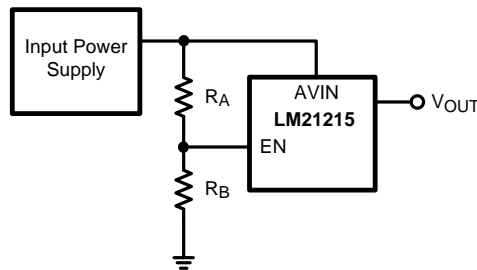

Figure 29. Enable Startup Through Vin
The LM21215 has a built-in under-voltage lockout protection circuit that keeps the device from switching until the input voltage reaches 2.7V (typical). The UVLO threshold has 200 mV of hysteresis that keeps the device from responding to power-on glitches during start up. If desired the turn-on point of the supply can be changed by using the precision enable pin and a resistor divider network connected to VIN as shown in Figure 29 in the design guide.
The enable (EN) pin of the LM21215 allows the output to be toggled on and off. This pin is a precision analog input. When the voltage exceeds 1.35V, the controller will try to regulate the output voltage as long as the input voltage has exceeded the UVLO voltage of 2.70V. There is an internal current source connected to EN so if enable is not used, the device will turn on automatically. If EN is not toggled directly the device can be preprogrammed to turn on at a certain input voltage higher than the UVLO voltage. This can be done with an external resistor divider from AVIN to EN and EN to AGND as shown below in Figure 29.